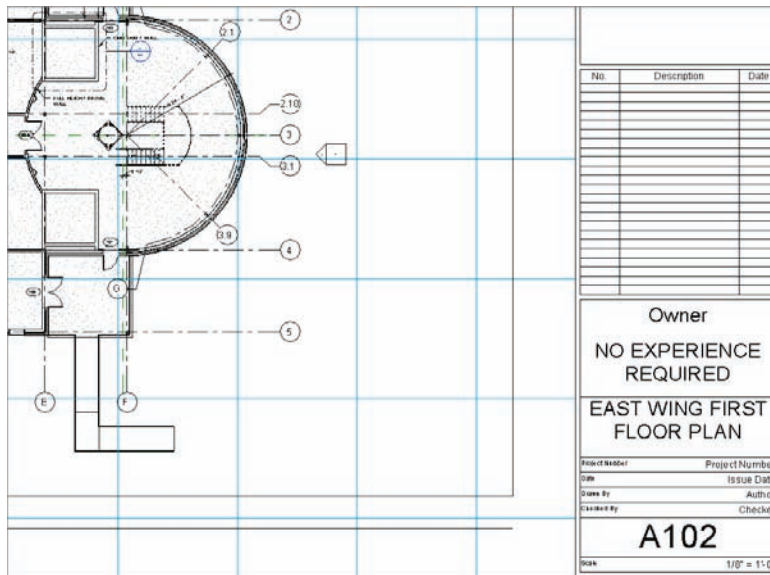

FIGURE 14.7 Changing the title-block information
1. With Sheet A102 open, zoom into the right side of the view, as shown in Figure 14.7.
4. Click into the text that says Unnamed, and type **EAST WING FIRST FLOOR PLAN** (see Figure 14.7).